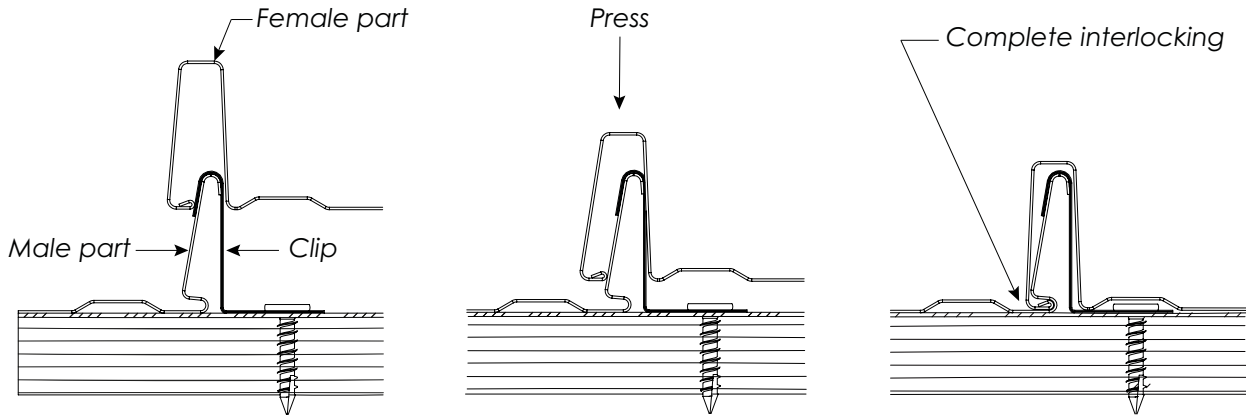

Figure 12.a | Interlocking of the panels
- The panel has a male and a female side that snaps into each other. (Figure 12.a)
- Place the panel slightly offset, press the female part of the panel onto the male section of the previously installed panel, until complete interlocking. (Figure 12.b)
- Slide the panel up so that the profile enters in the opening of the moulding and the 180 degree fold is hooked to the front flashing (410).